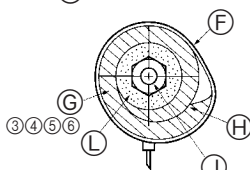
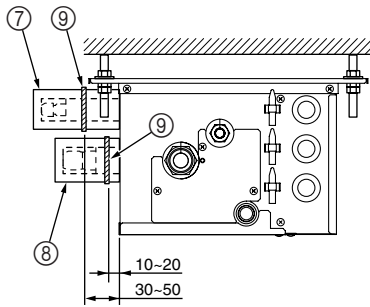

Fig. 7-3
Fig. 7-4
- Ⓔ Section of connection (Fig. 7-3)
- Ⓕ Band ⑨
- Ⓖ Pipe covers ③ ④ ⑤ ⑥
- ① Thermal insulation for refrigerant piping
- ② Refrigerant piping
► **Use the following procedures for indoor connection part which indoor unit is not connected. (Fig. 7-4)**
- (1) In order to prevent refrigerant leaks, make sure that the flare nuts are tightened according to the specified torques* in Table 3.
- (2) In order to prevent condensation, install the pipe covers ⑦ ⑧ and fasten them with the supplied bands ⑨.